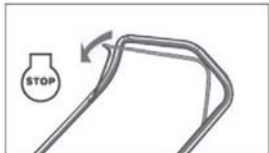

Fig. 9
1. Release the brake control handle to stop the engine and blade. (Fig.9)